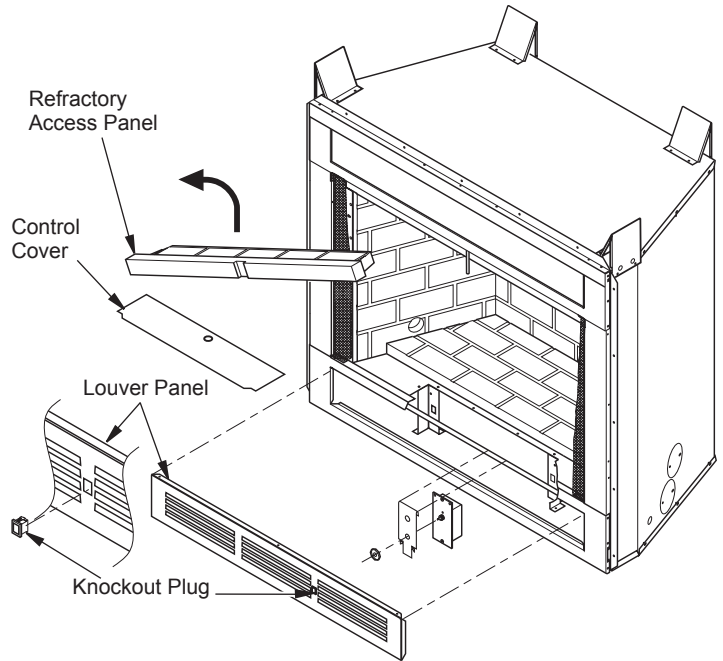

Figure 3 - Accessing Blower Compartment
2. Remove front refractory access panel by lifting up and angling out through fireplace opening. See Figure 3.
5. Remove knockout plug from lower louver panel. See Figure 3.